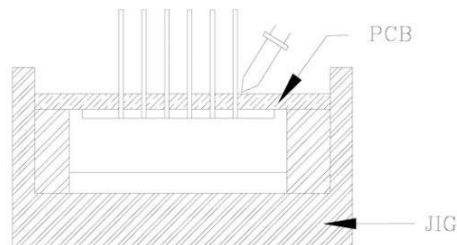

Fig.1
1) When soldering the lead of LED in a condition that the package is fixed with a panel (See Fig.1), be careful not to stress the leads with iron tip.